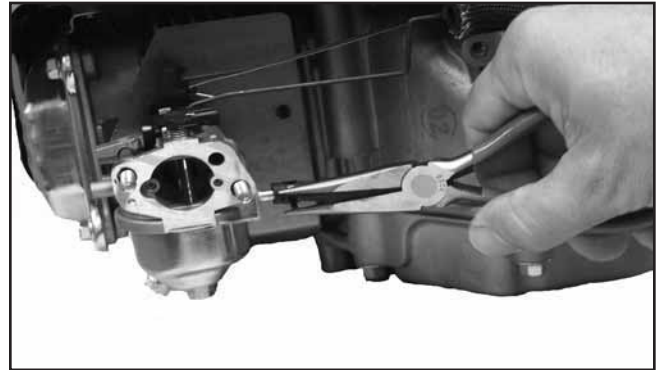

Figure 10-48. Connecting Fuel Hose.
1. Slide the fuel line tight up against the carburetor, and secure the connection with a hose clamp. See Figure 10-48.